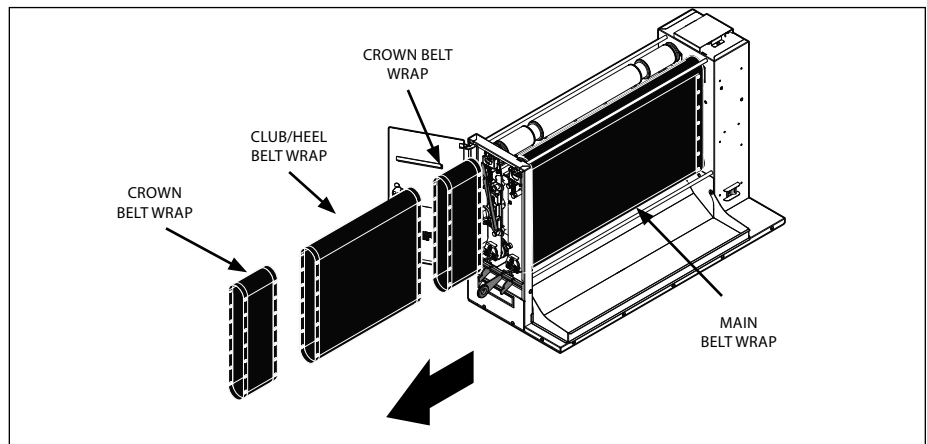

Figure 13. Remove and Discard the Belts
10. Remove and discard the Front Belt (the recommendation is to cut it in half so it cannot be used again). See Figure 13.
11. Remove and discard the Rear Belts (the recommendation is to cut them in half so they cannot be used again). See Figure 13.